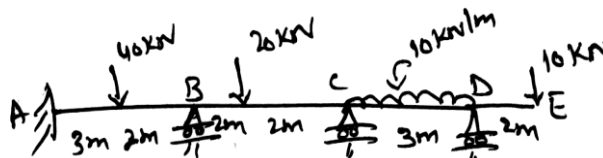

Fig Q3
- 3 Analyse the continuous beam shown in Fig Q3 by moment distribution method and draw BMD.